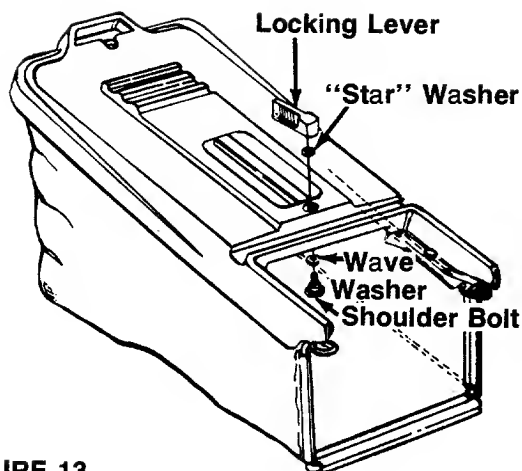

FIGURE 13.
- Insert shoulder bolt up through hole in hardtop cover as shown in figure 13. Place "star" washer over shoulder bolt.